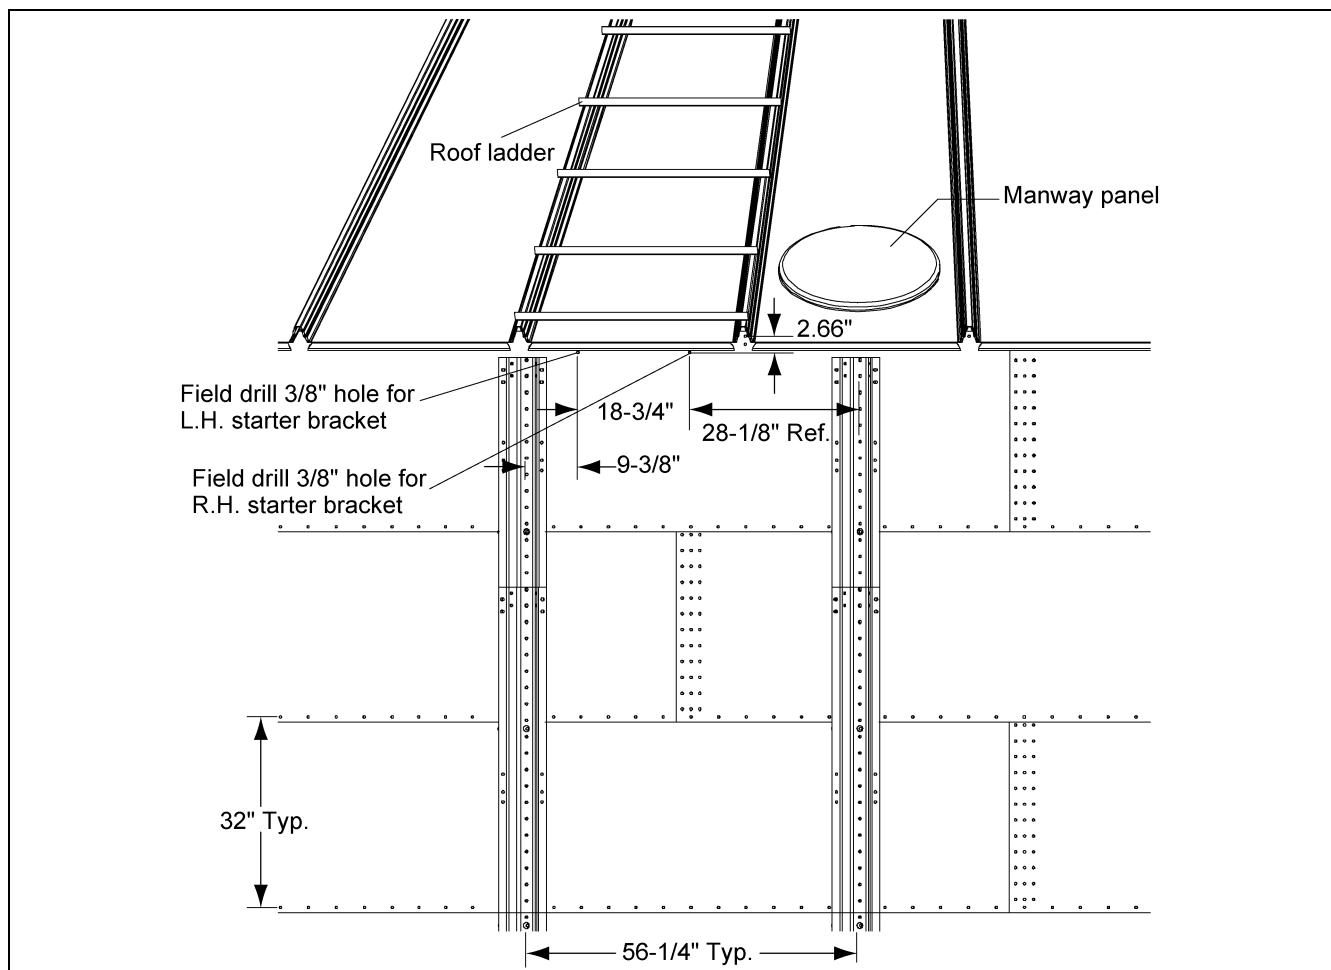

Figure 6C
The starter brackets must be located directly below the roof ladder. Before the starter brackets can be installed, two (2) 3/8" holes must be field drilled 2.66" below and directly in line with the top row of pre-punched horizontal holes. The first hole, required for the left-hand starter bracket, must be located 9-3/8" from the center of the stiffener to the center of the hole. The second hole, required for the right-hand bracket, must be located 18-3/4" from the center of the first hole. Refer to Figure 6C for the proper location of the two (2) 3/8" field drilled holes required to install the starter brackets.